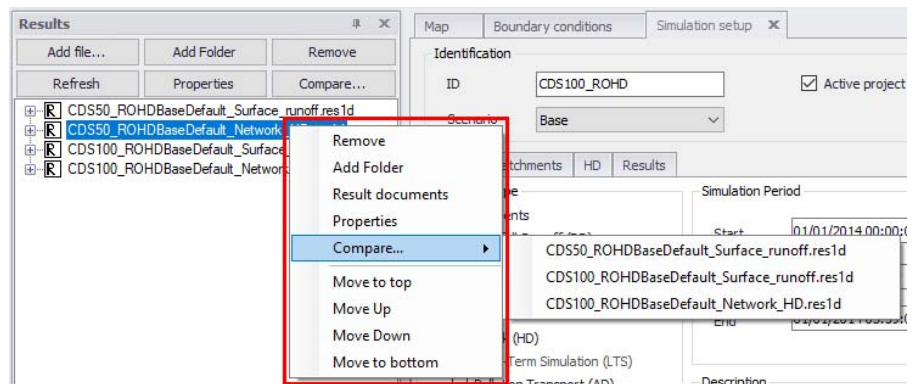

Figure 20.95 Compare results via the local context menu
- Alternatively, launch a file comparison via the results manager local context menu by right-clicking on a result file layer (Figure 20.95).